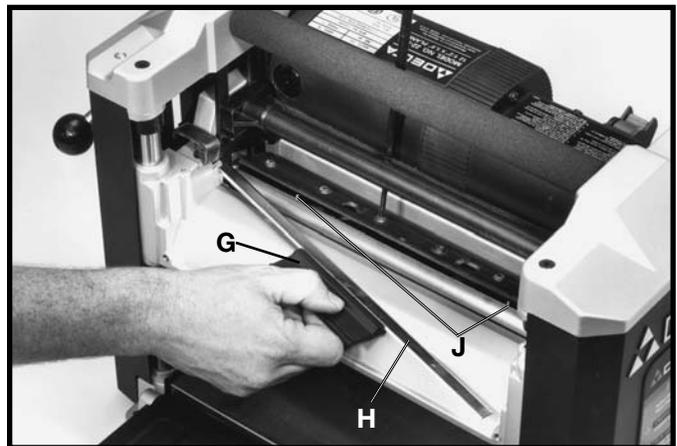

Fig. 31
8. Insert knife transfer tool (G) Fig. 31, underneath center of knife. Lift the knife transfer tool up until knife (H) separates from pins (J) and pull out and remove knife as shown. **NOTE:** Knife transfer tool is magnetized, allowing it to attach to knife.